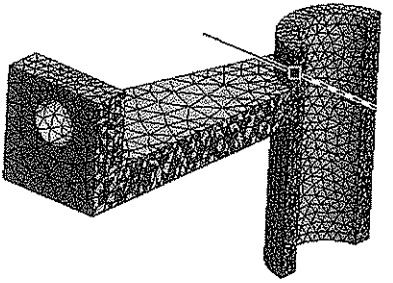

Figure 7-54 Isometric view of the sectioned model
- 12. Now, click and drag the cursor upward; the sectioned view of the meshed model is displayed. Next, change the view to Isometric, as shown in Figure 7-54.